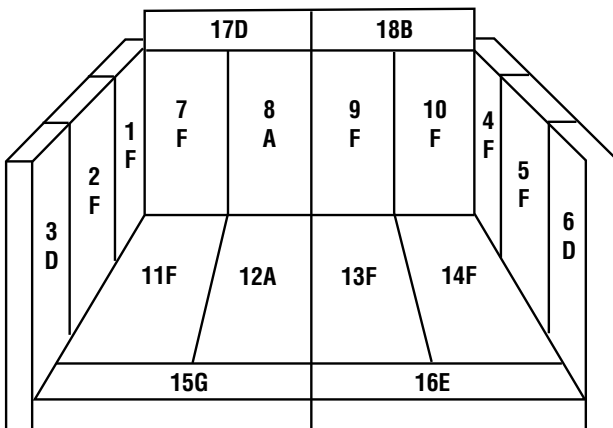

Figure 14
1. Install bricks #1-18 in the numbered sequence shown in **Figure 14** on **Page 15**.